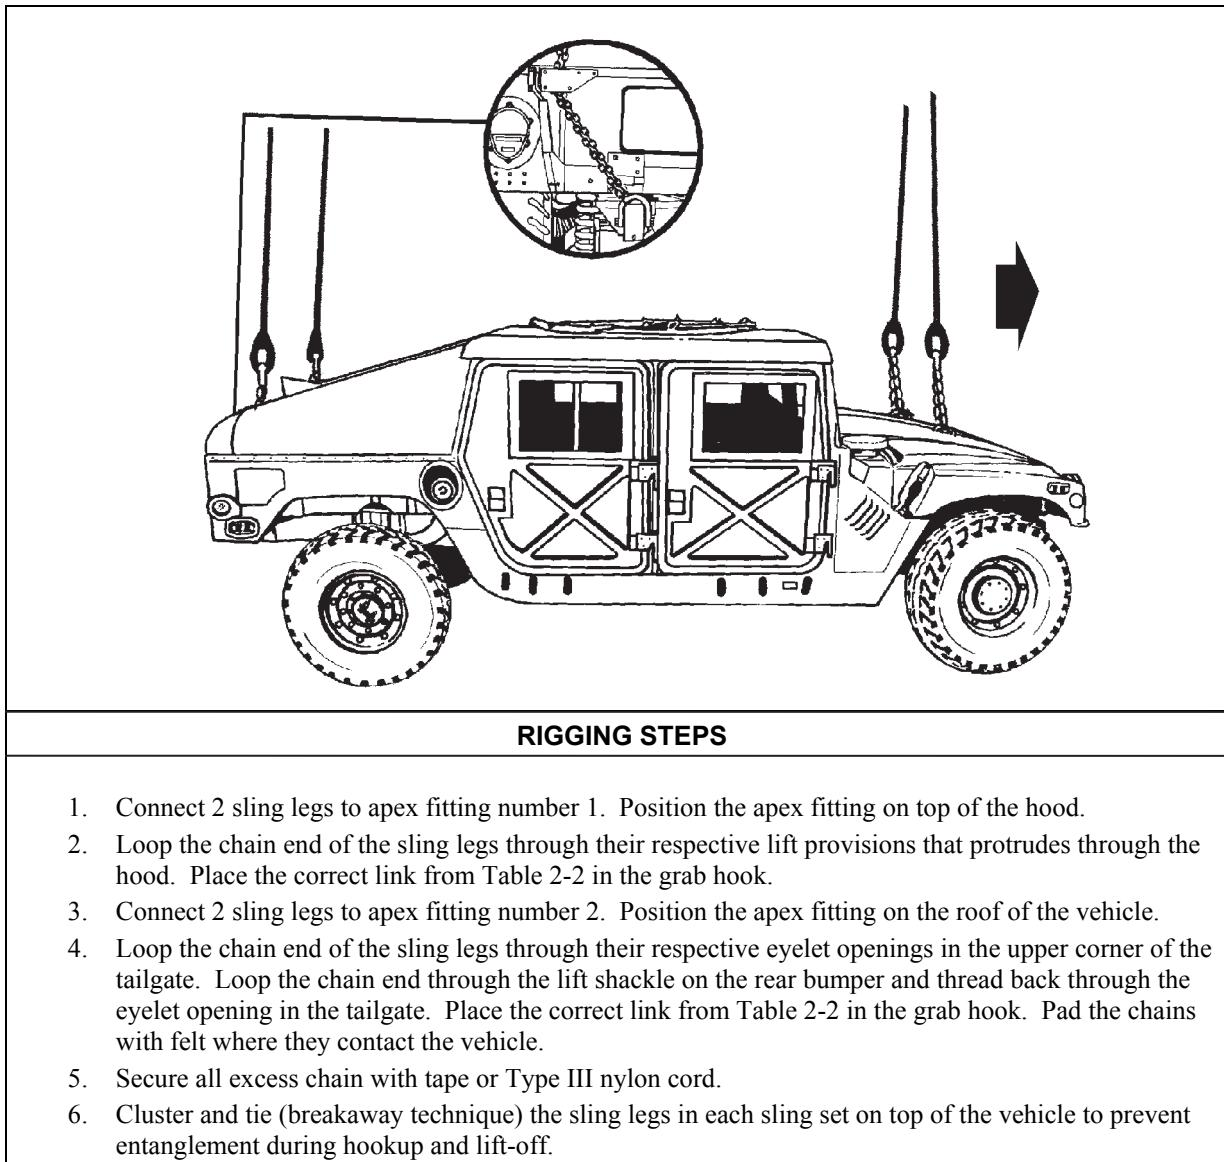

Figure 2-2. TOW Missile/Armament Carrier
- **Rigging.** Rig the load according to the steps in Figure 2-2.